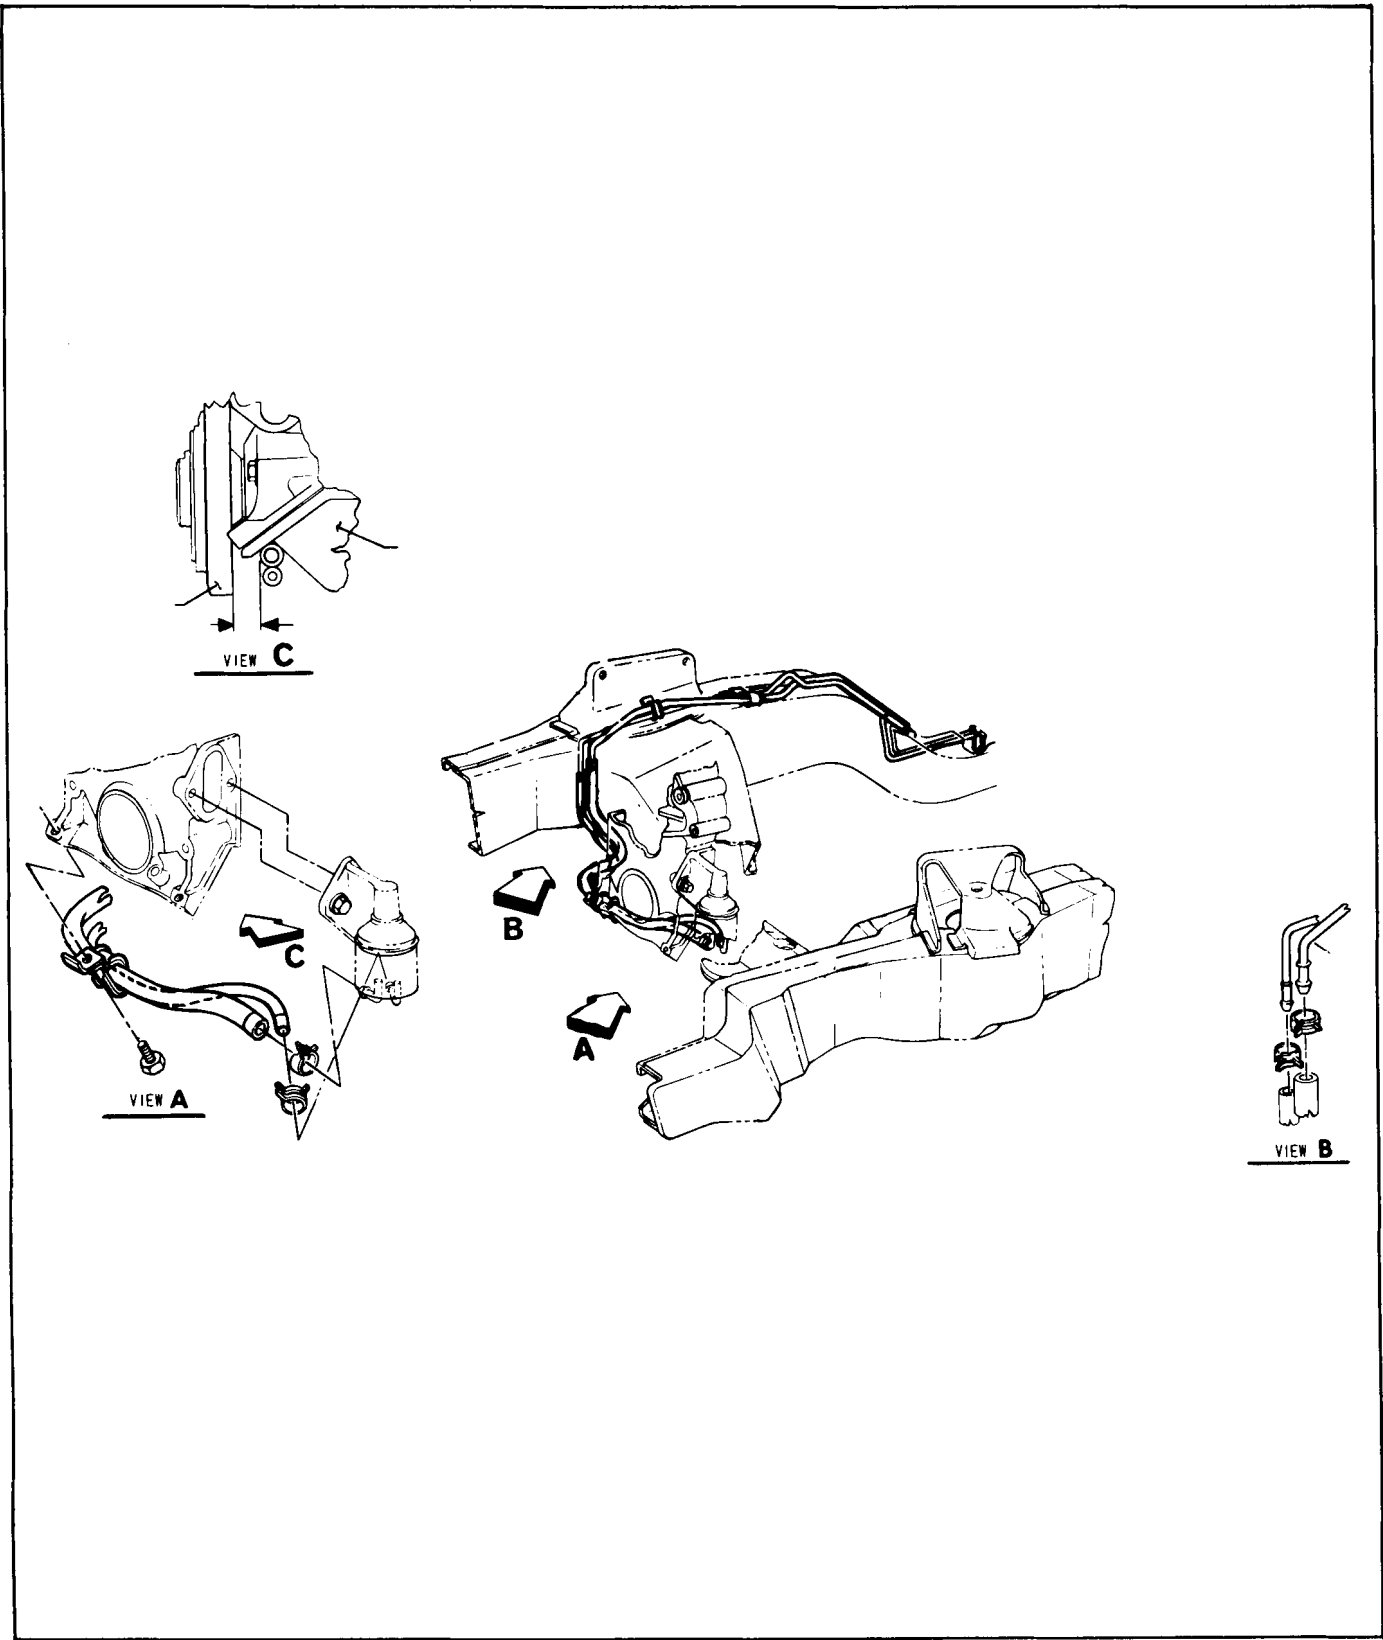

Fig. 8-10 Installation of Fuel and Vapor Return Hoses to Fuel Pump (B & F Series)
6. Disconnect front vent hoses (Fig. 8-10).